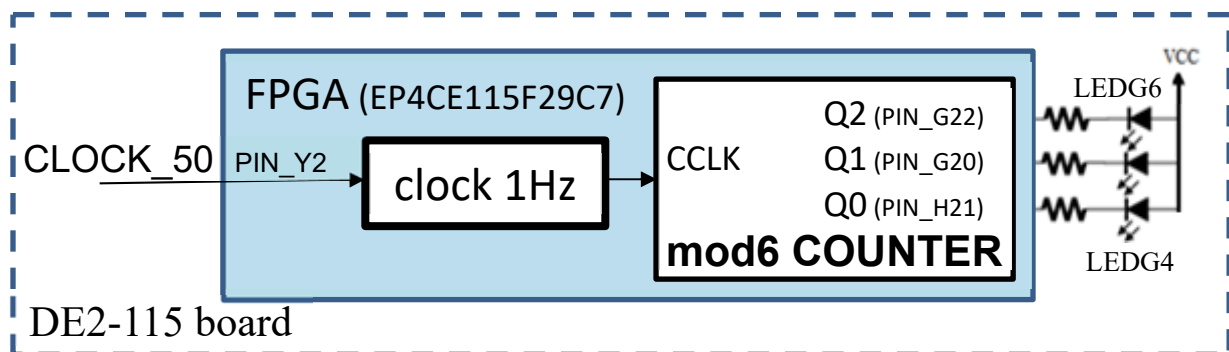

Figure 6A: mod6 COUNTER test circuit
6. Assign the EPM7128SLC84-7 device number to your design (Assign/Device) and then assign pin numbers as shown in Figures 6A, 6B. Select **Assignments → Assignment Editor**; under **Category** (in the upper right corner) select **ALL**.
- iii. Assign the pins as shown in the above Figures 6A, 6B, in accord with Table 4-3 of the board user manual [1,36]